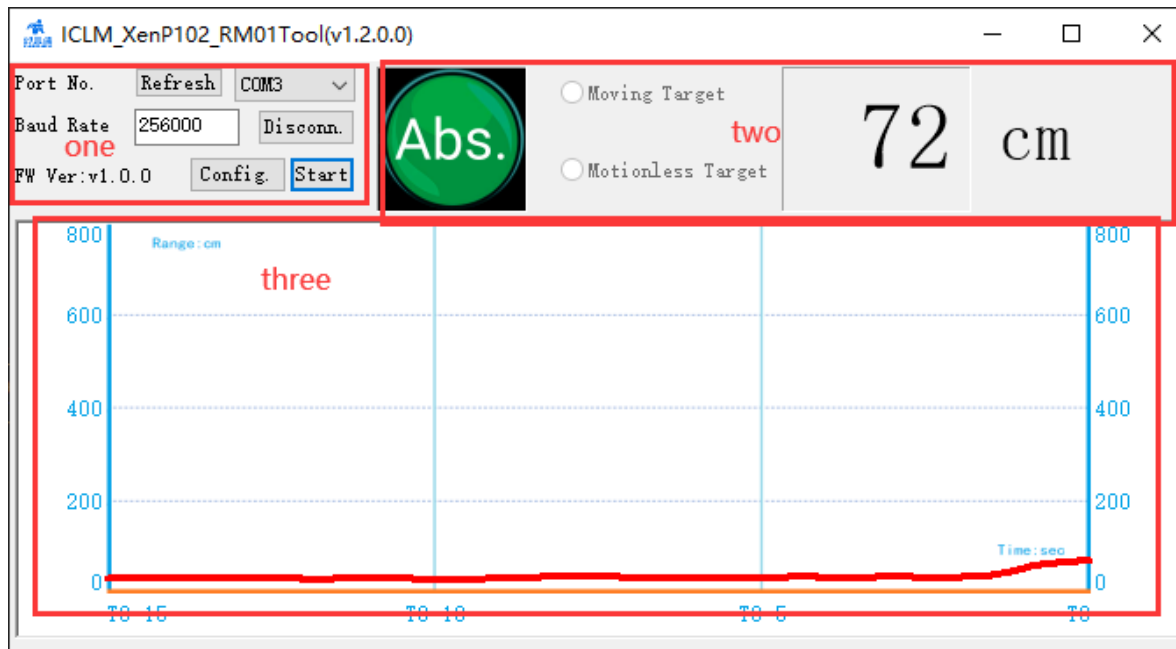

Figure 4-4 Upper computer tools ICLM_XenP102_RM01Tool configuration interface
Step 1: Open the upper computer software. The software interface is shown in Figure 4-4. Click the "Refresh" button in the upper left corner of the interface (area 1 marked in Figure 4-4), select the corresponding serial port number of the radar module and enter baud rate: 256000, then click "Connect Device"; as shown in Figure 4-5, the text on the button will change to "Disconnect Device" after successful connection, the firmware version number of the radar module will be displayed in Firmware Version;
As shown in Figure 4-4 and Figure 4-5, the circular indicator light on the far left of area 2 displays the target status detected by the radar module through color changes. The indicator light is green to indicate that there is no target in the detection area, red to indicate that there is a moving human target, and pink to indicate that there is a micro-moving human target, as shown in Figure 4-6.